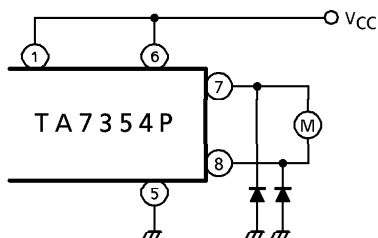

Fig.3
- (2) If the braking operation is so loose, connect a additional diode between each output to GND. (See Fig.3)